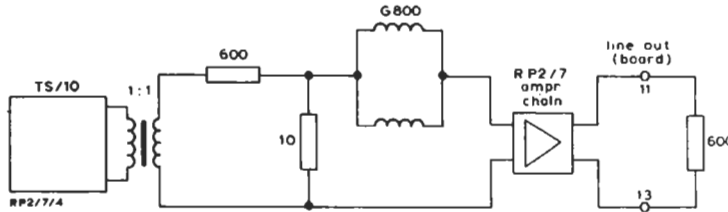

Fig. 4. Test Circuit 1
*(a) Levels on Circuit Board (Figs. 4 and 7)*
3. Set up test circuit 1 as shown in Fig. 4, with the two windings of the G800 cartridge connected in parallel.
*(b) Amplifier Frequency Response (Fig. 4)*
(d) Total Harmonic Distortion (Fig. 4)